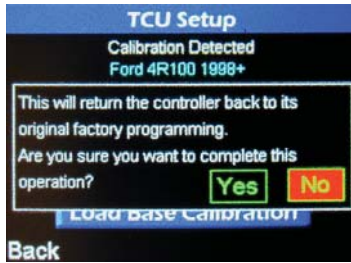

Figure 27
2. Select “**YES**” to reload the base calibration or “**NO**” to cancel (Figure 27).